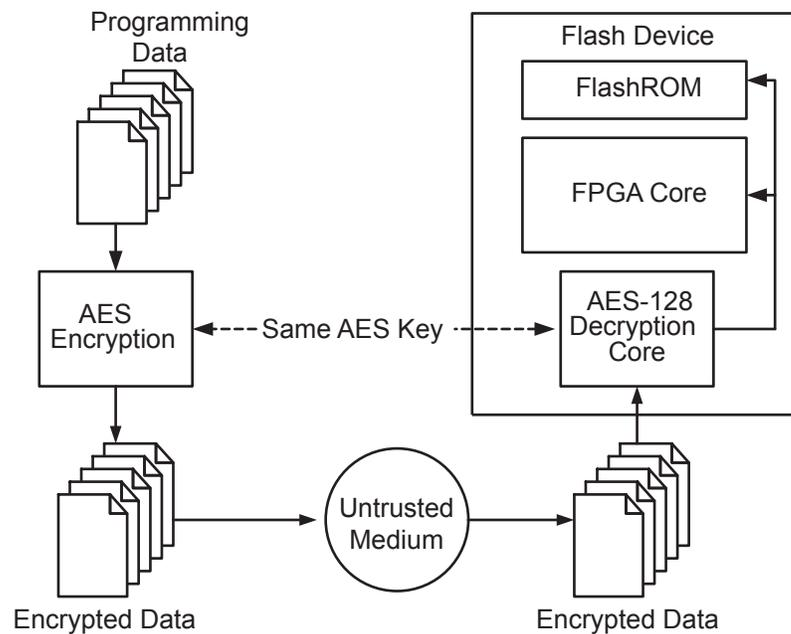

Figure 6-5 • Programming FlashROM Using AES
Low power flash devices with AES-based security allow for secure remote field updates over public networks such as the Internet, and ensure that valuable intellectual property (IP) remains out of the hands of IP thieves. Figure 6-5 shows this flow diagram.